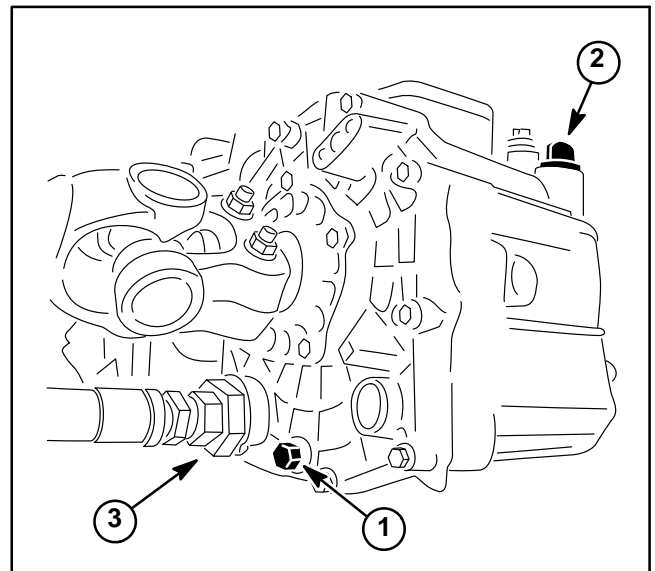

Figure 20
3. Remove drain plug from transaxle (Fig. 20) and drain transaxle into a suitable container.